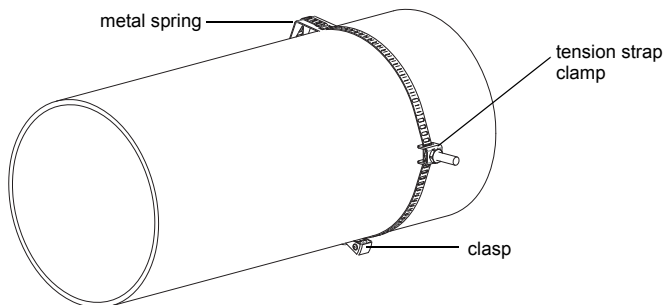

Fig. 7.6: Tension strap with tension strap clamp and metal spring on the pipe
- Position the clasp and the tension strap clamp on the pipe (see Fig. 7.6). On horizontal pipes, mount the tension strap clamp on the side of the pipe, if possible.
- Position the clasp, the metal spring and the tension strap clamp on the pipe (see Fig. 7.6):
- Position the clasp, the metal spring (if necessary) and the tension strap clamp on the pipe (see Fig. 7.6).